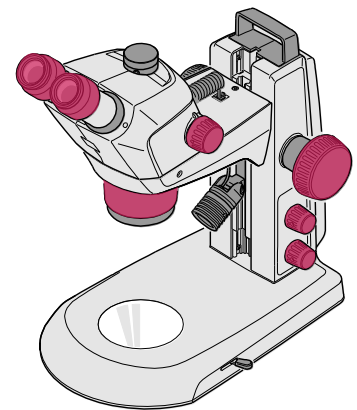

Figure 1. Parts of the Zeiss Stemi 305 Stereomicroscopes to disinfect.
3. Use 70% ethanol/isopropanol to disinfect the eyepiece shades, zoom button, focusing drive, illuminator switch for transmitted light, and illuminator switch for reflected light (Figure 1).